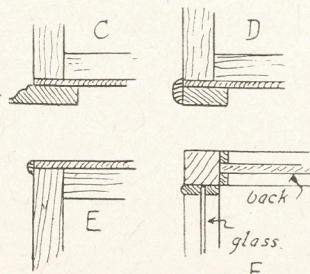

Fig. 3—Base and cover joints
Glass will be required for front and ends of the case, but for the back, wood can be substituted. The detail (F) in Fig. 3 shows the back, which can be of plywood or substitute board, fitted in and kept in place with a plain slip of wood outside. The outside glass beading is of $\frac{3}{16}$ in. by $\frac{1}{2}$ in. section wood, the outer edges of which are neatly rounded. Cut and mitre them to fit each panel
At the edges of the base a $\frac{3}{4}$ in. by $1\frac{1}{2}$ in. moulding can be mitred round, fixed with glue and screws, as at (C) in Fig. 3. This by the way covers only the front and ends, the back being a plain strip, level with the bottom of the case, and not extending beyond. Alternatively, a plain $\frac{3}{4}$ in. by $1\frac{1}{2}$ in. strip of wood can be used here, with a half-round or moulded strip covering the edges of both strip and bottom, as at (D). The moulded strip is omitted at the back of the case.